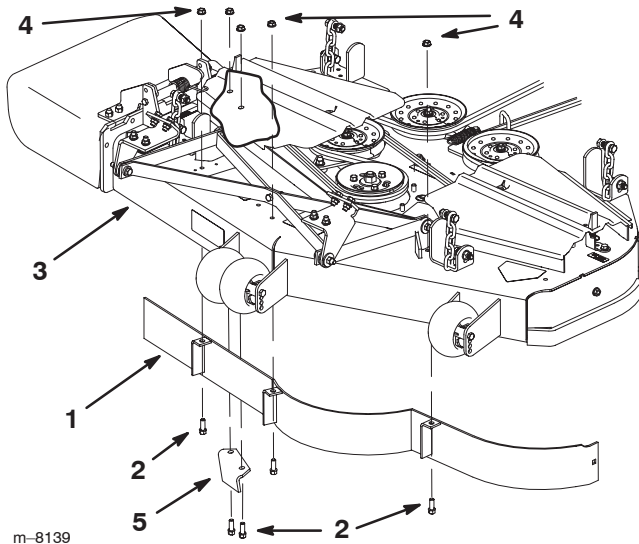
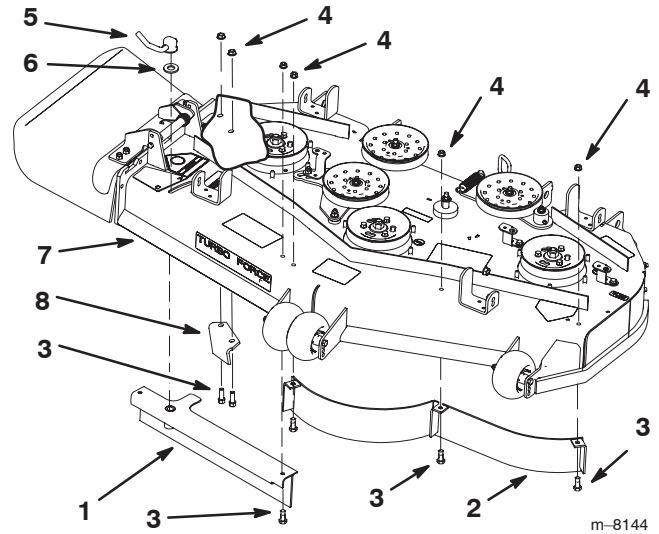

Figure 2
Figure 3
Note: This kit will fit two different types of mower decks. One type of mower deck is shown in Figure 2 and has one front baffle. The second type of mower deck is shown in Figure 3 and has an Adjustable Flow Baffle.
1. Remove the nuts holding the front baffle in place (Fig. 2).
2. Remove the nuts holding the discharge baffle in place (Fig. 2).
3. Remove the bolts holding the front baffle in place (Fig. 2).
4. Remove the bolts holding the discharge baffle in place (Fig. 2).
1. Remove the nuts holding the baffles in place (Fig. 3).
2. Remove the cam lock holding the Adjustable Flow Baffle in place (Fig. 3).
3. Remove the bolts holding the baffles in place (Fig. 3).